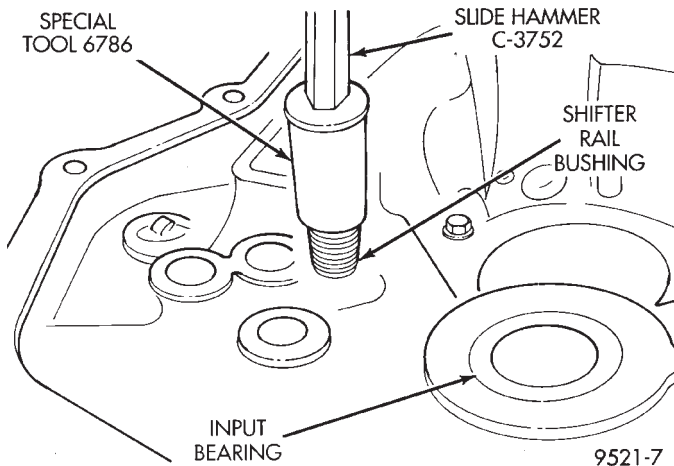

Fig. 142 Shift Rail Bushing Removal
- (1) Thread tool #6786 into shift rail bushing.
- (2) Install slide hammer #3752 onto tool.
- (3) Remove bushing using slide hammer and tool assembly (Fig. 142).